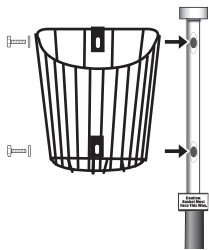

Fig. 7
7. Using the two (2) 3/8" screws with washers, attach the black wire basket to the upper pole with the phillips-head screwdriver, Fig 7.